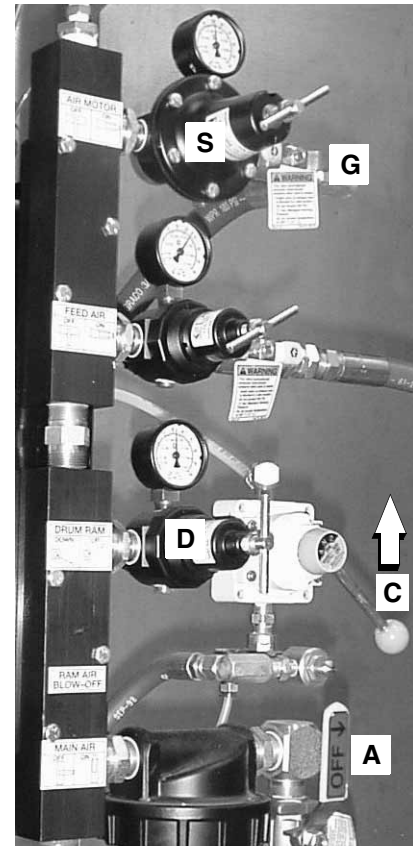
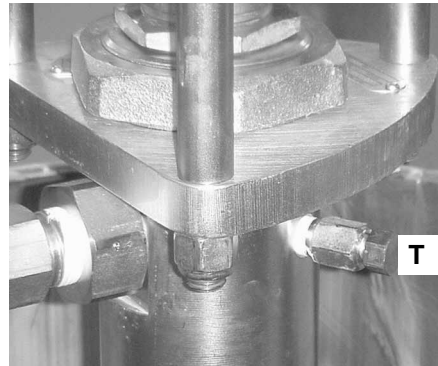
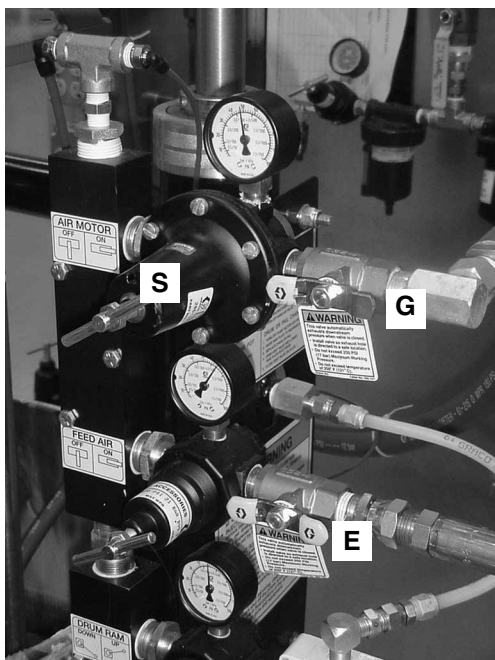

FIG. 9
FIG. 12
FIG. 13
2. Open the main air supply shutoff valve (A), FIG. 9.
3. Place the ram lever (C) in the UP position.
1. Place a waste container under the pump bleed valve (T), located behind the displacement pump outlet, FIG. 12. Using an adjustable wrench, open the bleed valve counterclockwise 1/3-1/2 turn.
2. Slowly open the main air motor shutoff valve (G), FIG. 9. Make sure the pump begins to cycle and material flows from the bleed valve (T) after several cycles of the pump, FIG. 12.
If the pump does not cycle, close the air shutoff valve (G), adjust the air motor regulator (S) up 5 psi (34 kPa, 0.3 bar) and repeat step 2, FIG. 9. Never adjust the regulator by more than 5 psi (34 kPa, 0.3 bar) increments, FIG. 13.
3. Operate the pump until it moves smoothly in both directions with no air popping or erratic movement, then close the air motor shutoff valve (G), FIG. 9.
4. Close the bleed valve (T), FIG. 12.
5. Make sure the air motor and catalyst feed air shutoff valves (G and E) are closed, FIG. 13.
9. Open the air motor shutoff valve (G) and continue pumping until clean material, with no air pockets, dispenses from the resin hose into the waste container, then close the shutoff valve, FIG. 13.